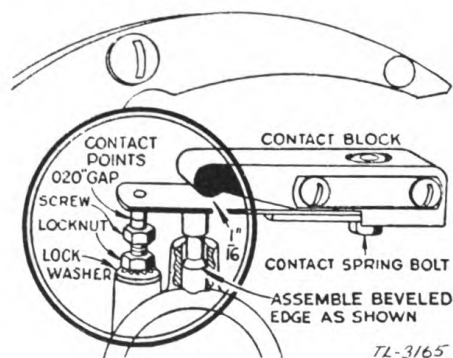

FIGURE 24.—Magneto contact points.
(7) *Adjusting contact points* (fig. 24).—While the magneto plate is on the motor crankcase, turn the crankshaft by hand and check the contact points for proper opening and closing action. The contact
(g) See figure 24 for details.